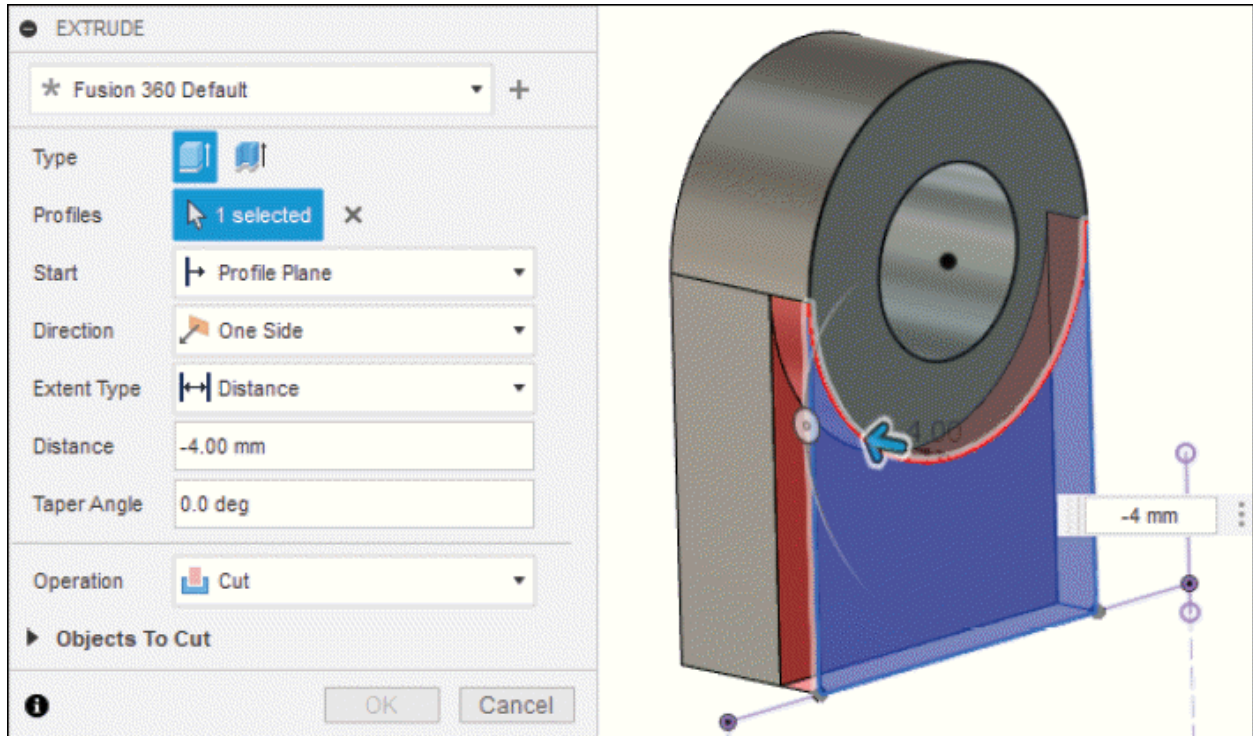

Figure-57. Preview of extrusion
- Select **Cut** option from **Operation** drop-down. The preview of extrusion will be displayed; refer to Figure-57.